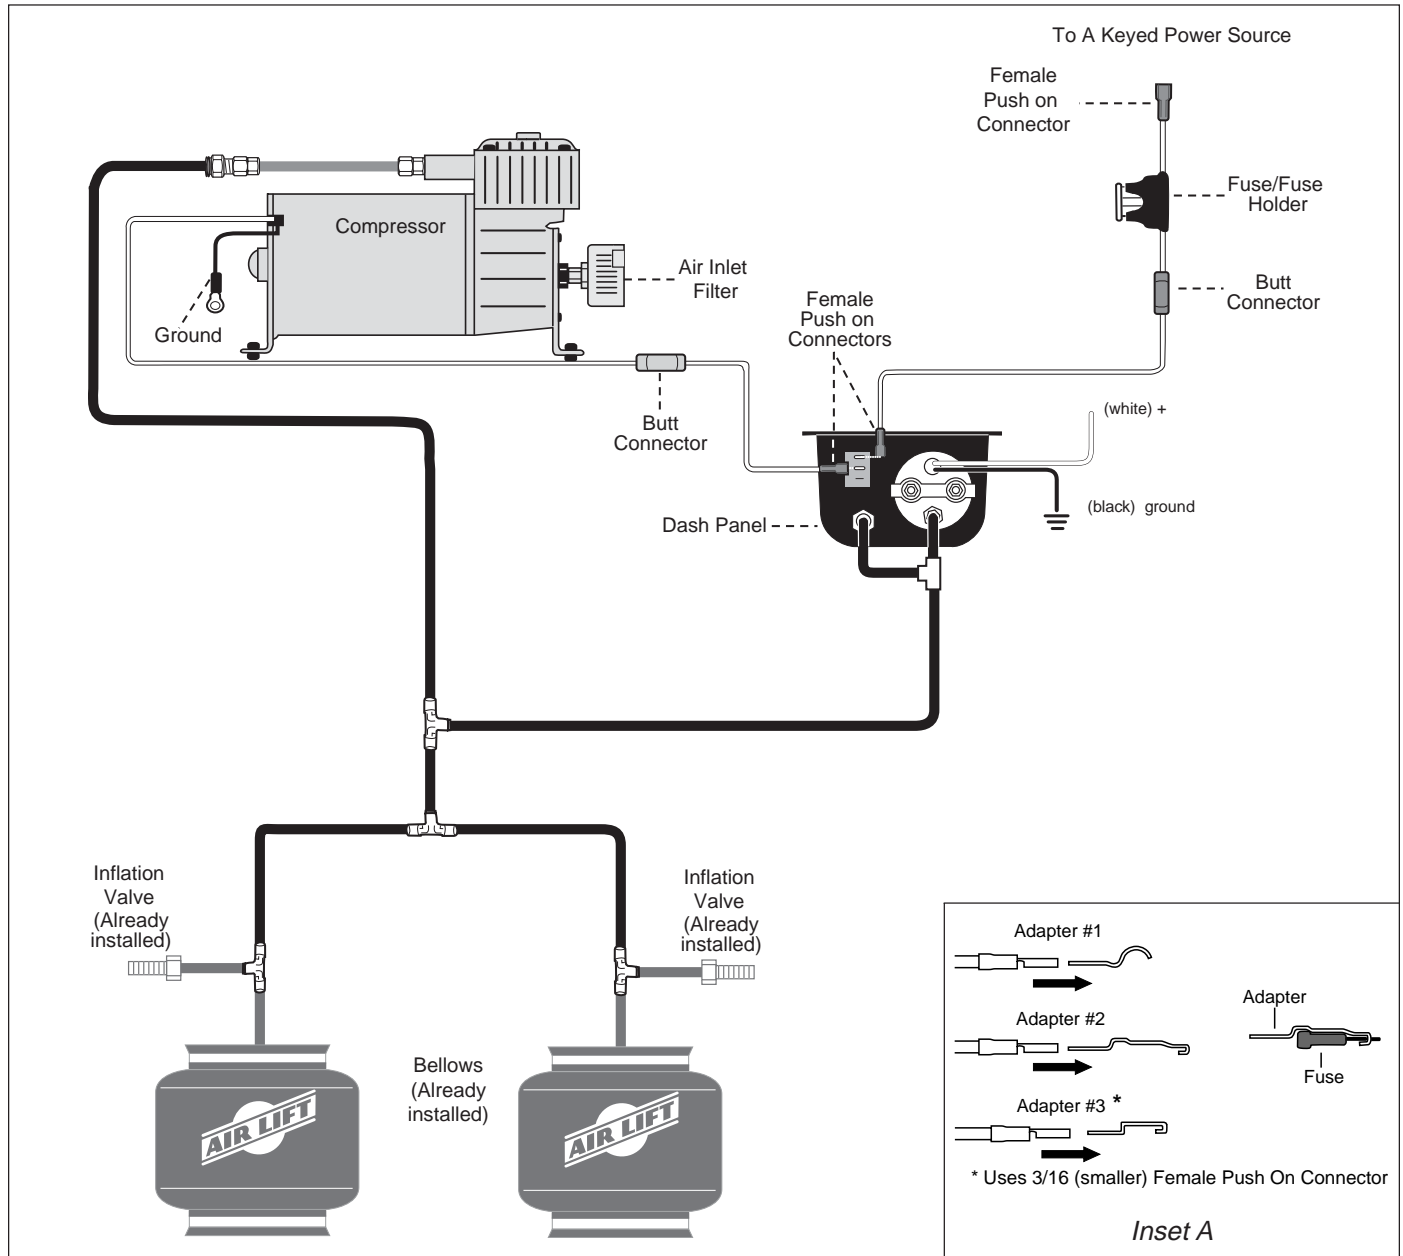

Figure 1
3. Connect the (red) wire from the panel to the (red) wire on the compressor using a blue butt connector (Figure 1). Connect the other end of the wire to the push switch using the blue $\frac{3}{16}$ female push on connector. With your thumb against the front side of the switch, push the connector onto one of the terminals on the back of the ON/OFF switch on the gauge panel
5. Determine the length of supplied (red) wire required to connect the dash panel to the fuse assembly. Cut and crimp the wire into the butt connector (Figure 1). Connect the other end of the wire to the push switch using the blue $\frac{3}{16}$ " female push on connector. With your thumb against the front side of the switch, push the connector onto the remaining terminal on the back of the ON/OFF switch on the gauge panel.
4. Determine the location of the third tee. Cut the air line between the first two tees and install a third (Figures 1 & 5).
7. Determine the closest and easiest area to connect the gauge panel to the air line between the compressor and air springs. Measure the distance between these two points and cut the air line and install the last tee (Figures 1 & 5).